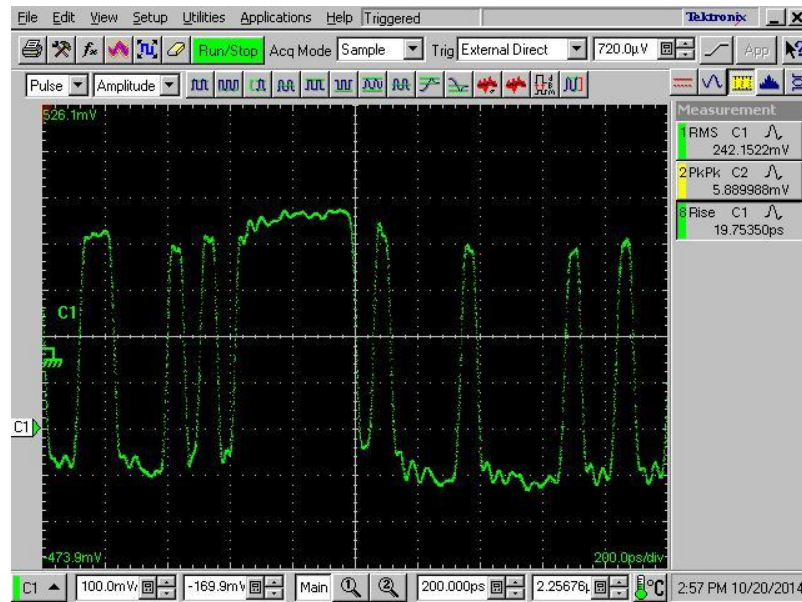

Fig. 5. Incorrect PRBS7 pattern
9. Scroll/Delay the 127 bit PRBS7 pattern on the oscilloscope until you observe a sequence of data close to 7 one's followed by 6 zero's. You may find a pattern shown below in **Figure 5**, which is incorrect.